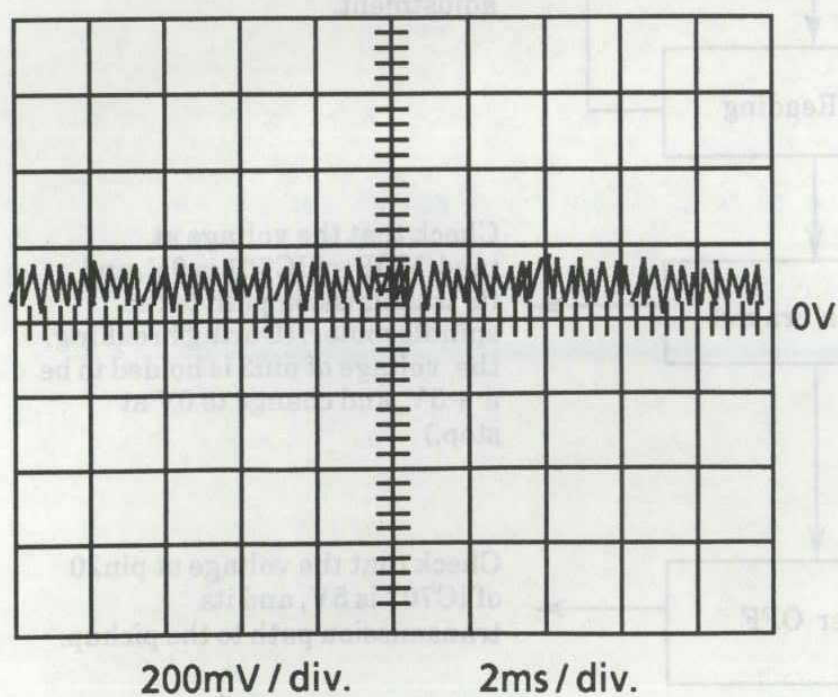

Figure 1
1. Connect an oscilloscope to TP 5(FE) and TP 4(GND).
3. Adjust R703 (F.GAIN ADJ.) so that the correct waveform as shown in figure 1 is obtain. (The dc offset may not occur.)